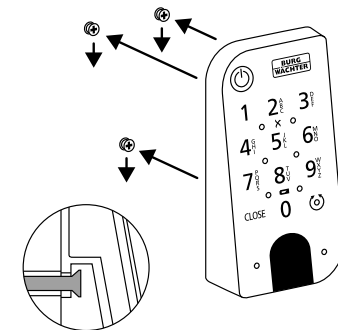

Fig. 4
- ④ Place the keypad on the screw heads as shown in the illustration (Fig. 4).